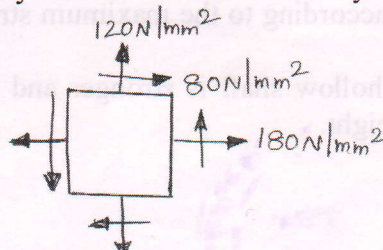

Fig. Q3
- 3 The state of stress at a point in a strained material is shown in Fig. Q3. Determine